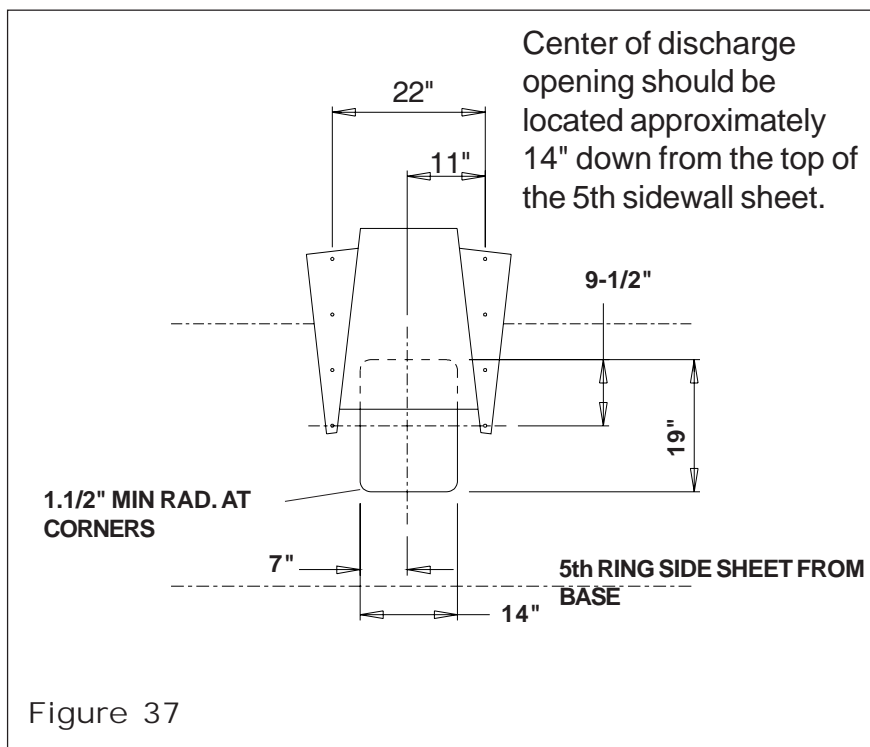

Figure 37
1. The last bolt hole in the chute should line up with the center of the discharge chute opening that is to be cut. (See Figure 37.) Therefore, you should be able to approximate an opening by measuring 9-1/2" above and below the last bolt hole of the chute. Mark horizontal cut lines.
2. To find the vertical center of the chute opening, measure over 11" to the right and left of the chute bolt rows. Mark center point. (See Figure 37.) Then from the center point, measure 7" on both sides and mark vertical cut lines.
3. Cut opening where marked, make sure corners have a minimum of 1-1/2" radius. (See Figure 37.)